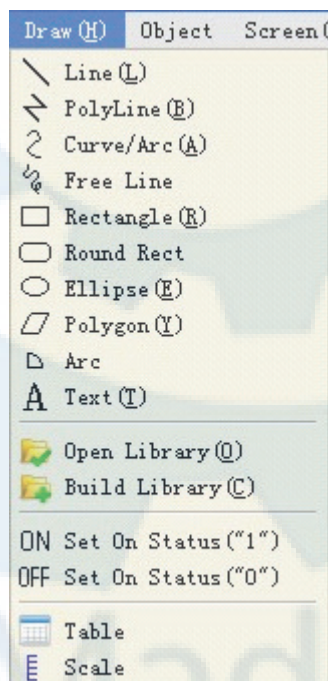

Figure 2-31: Draw menu
This menu is mainly used to draw pictures. SKWorkshop provides Line (L), Polyline (B), Curve/Arc (A), Free line, Straight Connection Line, Curve Connection Line, Rectangle (R), Ellipse (E), Polygon (Y), Text (T), Open Library (O), Build Library (C), Set ON Status, Set OFF Status, Table and Scale. This menu can be also used to open and close tool box. A “√” on the left of the command indicates the tool box has been displayed in the screen. Using picture elements built with the Tool menu, designers can conveniently change the color, text, size and position of these elements. See Figure 2-31.